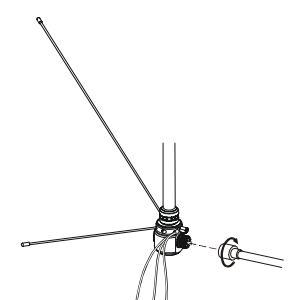

Figure 6
5. Connect the coaxial cable from the transceiver's HF antenna jack (see Figure 6). Typically, you can use the built-in SWR meter in the transceiver, but alternatively you may adjust the SWR using an "Antenna Analyzer" prior to connecting the coaxial cable to your transceiver.